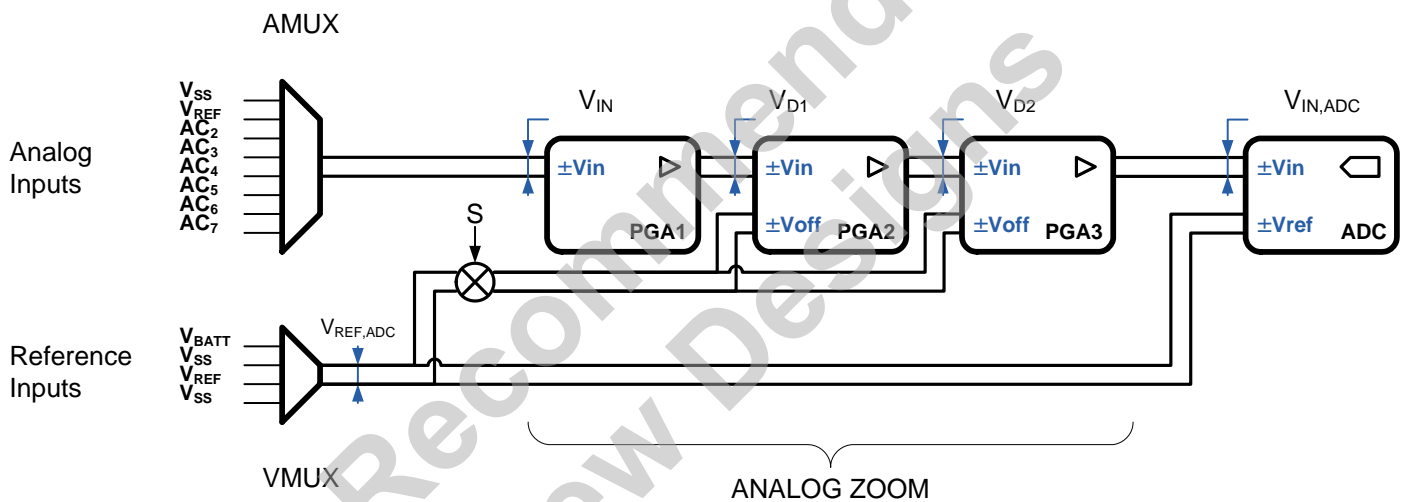

Figure 10. ZADC General Functional Block Diagram
Figure 10, page 18 shows the general block diagram of the acquisition chain (AC). A control block (not shown in Figure 10) manages all communications with the I2C peripheral. The clocking is derived from the internal 4 MHz Oscillator.
As seen in Figure 10, page 18, the zooming function is implemented with three programmable gain amplifiers (*PGA*). These are: